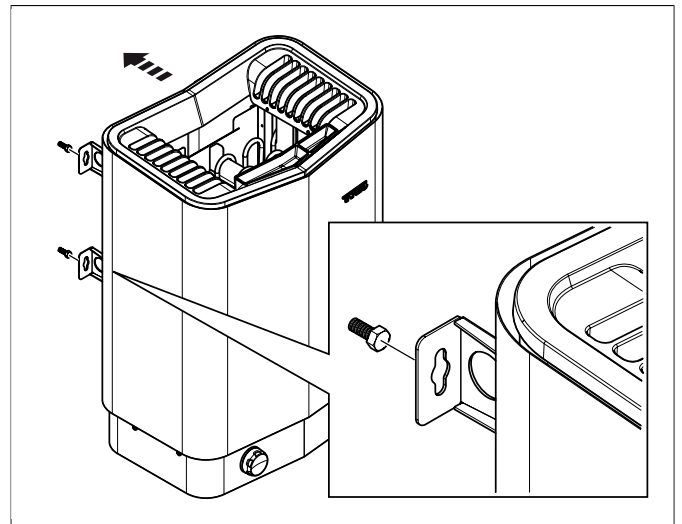

Figure 10: Hang the heater up.
8. Hang the heater on the screws se **Figure 10**, Page 4.